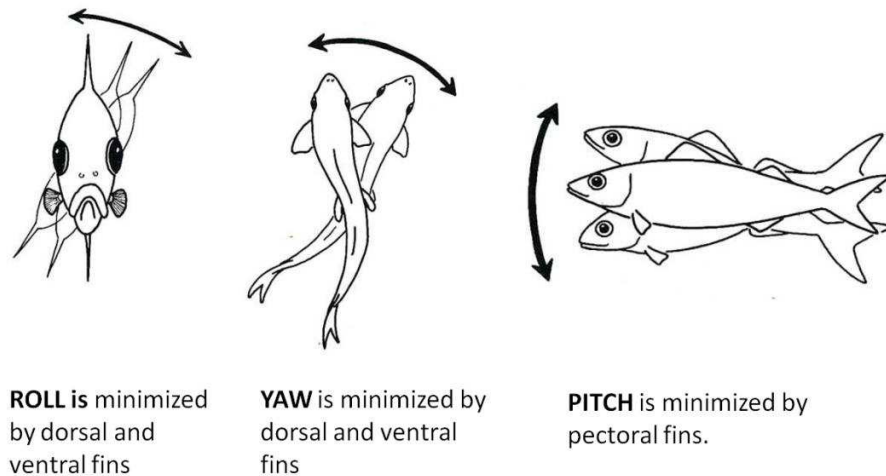

Figure 4: Roll, yaw, and pitch of fish bodies (from: <http://www.biology-resources.com/drawing-fish-pitch-roll-yaw.html>)
2.) **Stability:** The bottle should be stable in the roll, yaw and pitch planes (Figure 4). You should *design and place fins* on your model to ensure stability. If your bottle is not stable, then it will not travel in a straight line; this will be detrimental to the overall speed of the vehicle.